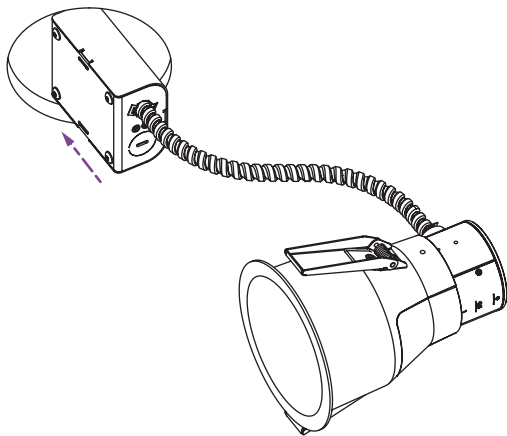

fig. 12
1. Feed the junction box through the hole in ceiling (see fig. 12).